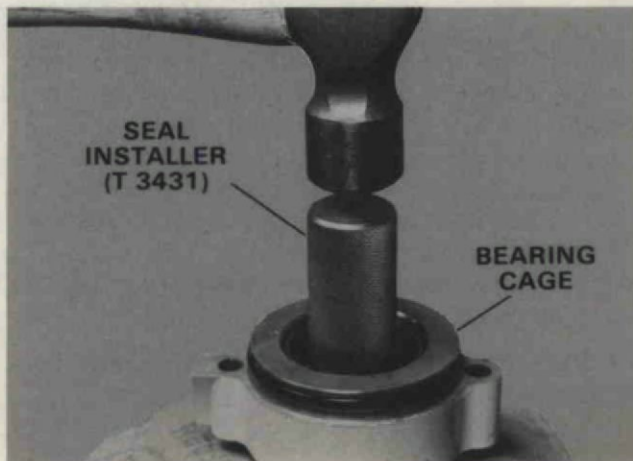

Figure 66. Installing Seal in Bearing Cage.
- A. Apply grease (Special Tool No. T 2961) between lips of propeller shaft seal. Use seal installer (Special Tool No. T 3431) to press seal into bearing cage. Figure 66. Garter spring should face out toward rear of prop shaft and seal should bottom in bore.